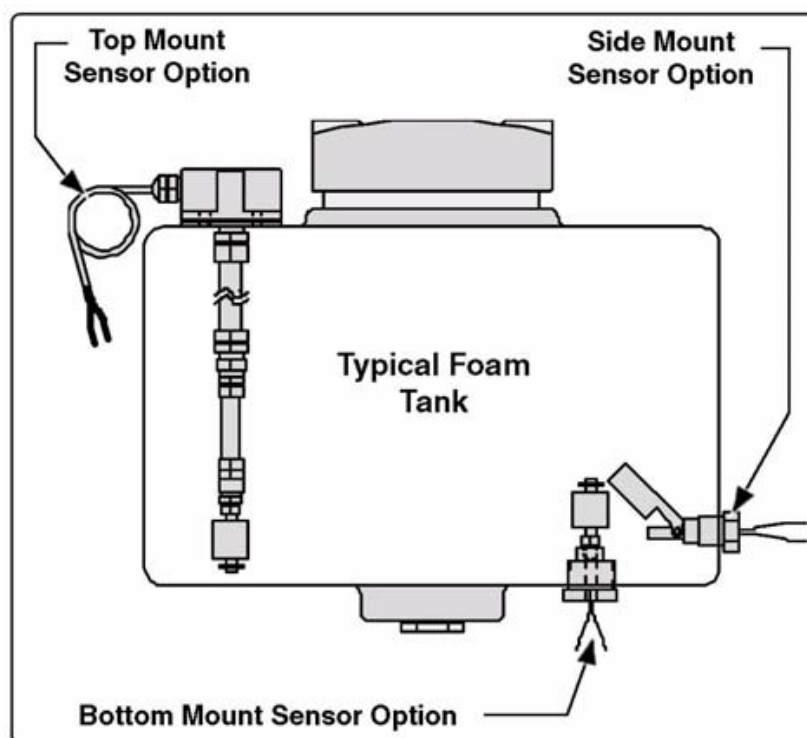

Figure 52: Low Level Sensor Mounting Options
The foam low tank level sensor(s) must be installed and wired to monitor the foam concentrate level (**Figure 52**).
3. Coat the threads of the sensor with a suitable sealant and insert into tank fitting. Tighten sensor making sure the float is on the top of the sensor (**Figure 52**).